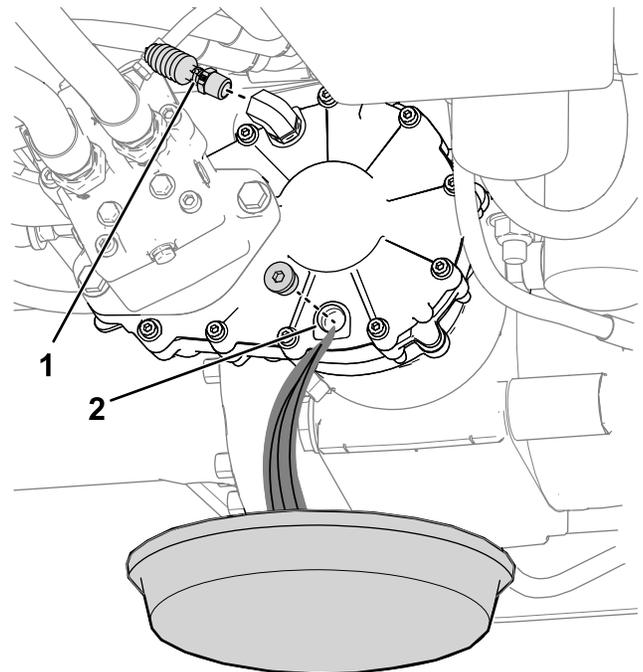

Figure 111
1. Place a drain pan under the gearbox drain port (Figure 111).
2. Remove the hose barb and bellows from the 90° fitting on the gearbox (Figure 111).
3. Remove the plug from the drain port (Figure 111) and allow the oil to drain completely from the gearbox.